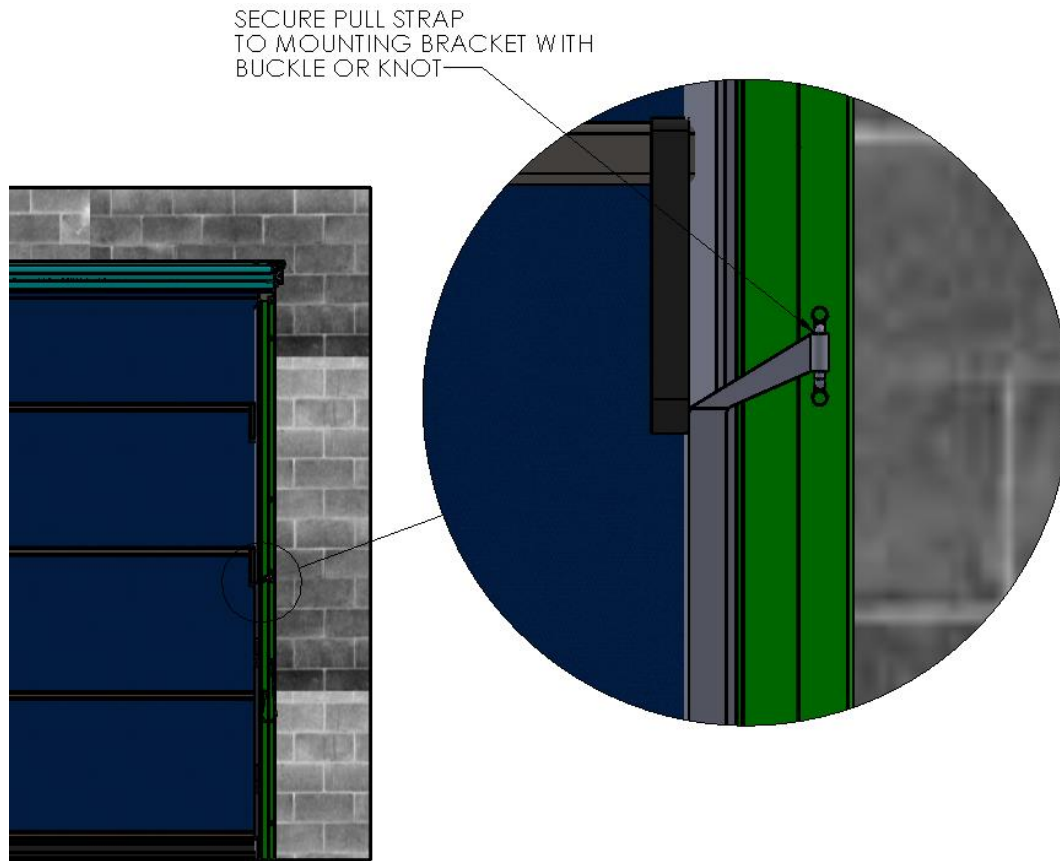

Figure 6 SECURE PULL STRAP
1. Use the Buckle provided to secure the long Pull Strap to the mounting Bracket attached to the Right-Side Track. (Figure 6 SECURE PULL STRAP)